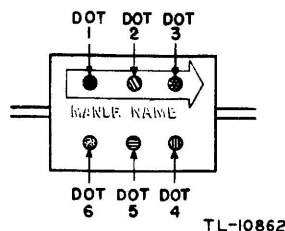

Fig 4. Molded mica capacitors: AWS six dot color code
a. The AWS (American War Standard) code for molded mica capacitors is shown in figure 4. Like the RMA code, it makes use of six colored dots, but with somewhat different significance. The first four dots give the capacitance in micro-microfarads, as follows: first significant figure, second significant figure, third significant figure, and the decimal multiplier. It will be noted that this scheme makes provision for marking units with three significant figures. However, none of the capacitors standardized under the AWS code requires more than two significant digits to specify its capacitance. *The first dot on all molded mica capacitors, marked with the AWS code, is black, and the two necessary significant figures are given by the second and third dots. As a result the black first dot becomes an important feature or identification symbol for a molded mica capacitor marked according to the AWS code. A few*